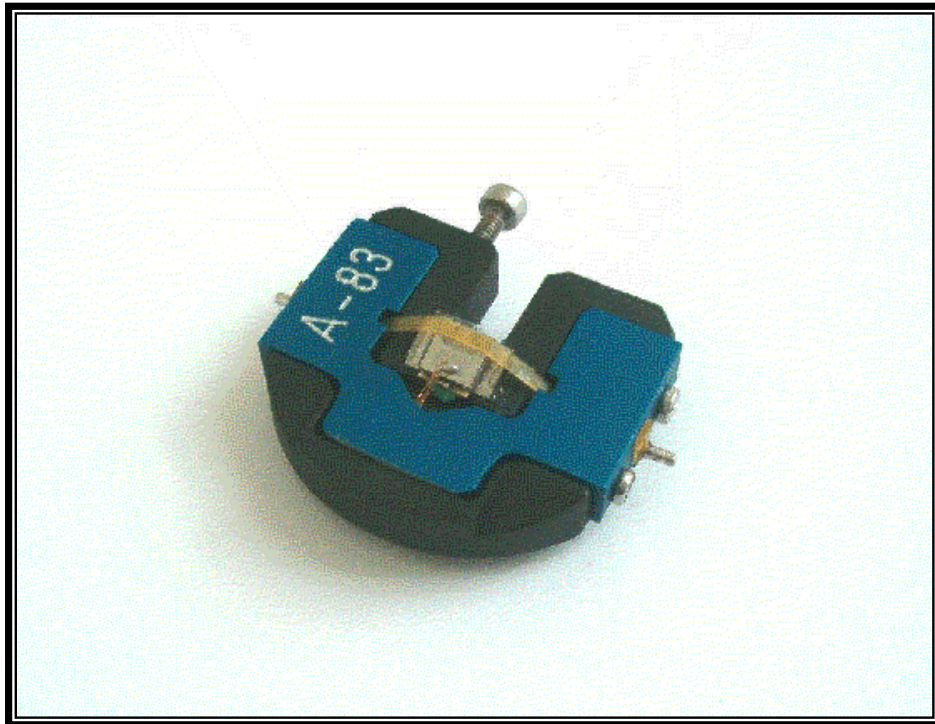

Fig. 2.30: Cantilever holder with a new rubber strip
7. Finally, you have your cantilever holder with a new rubber strip, ready for placement of a cantilever chip (see Fig. 2.30).